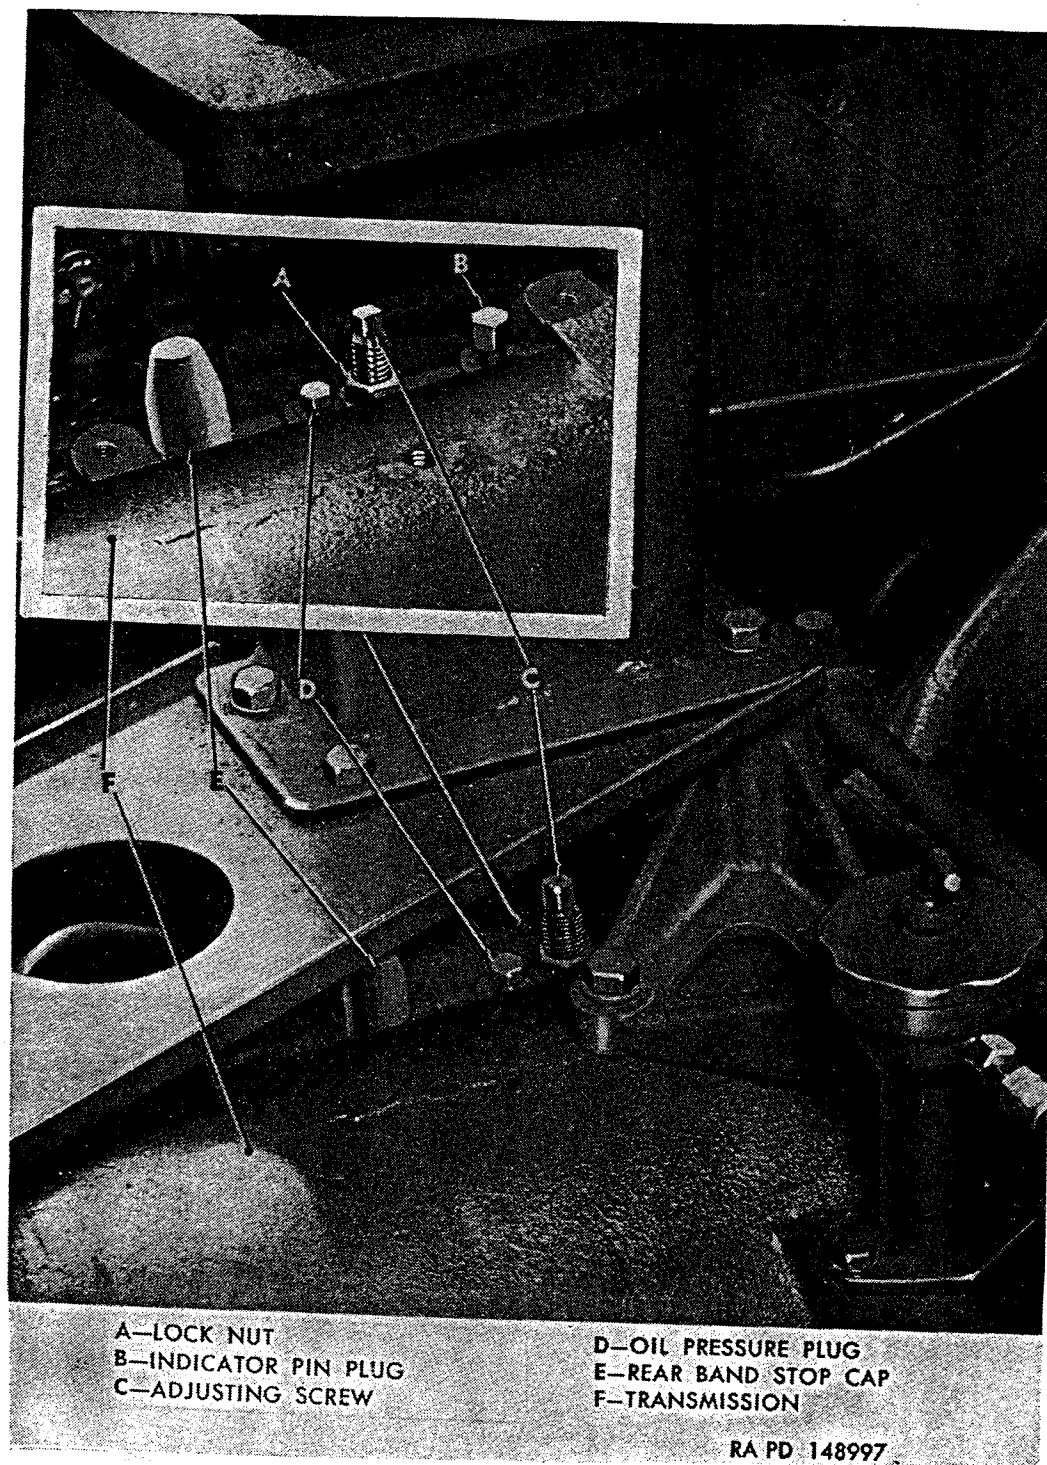
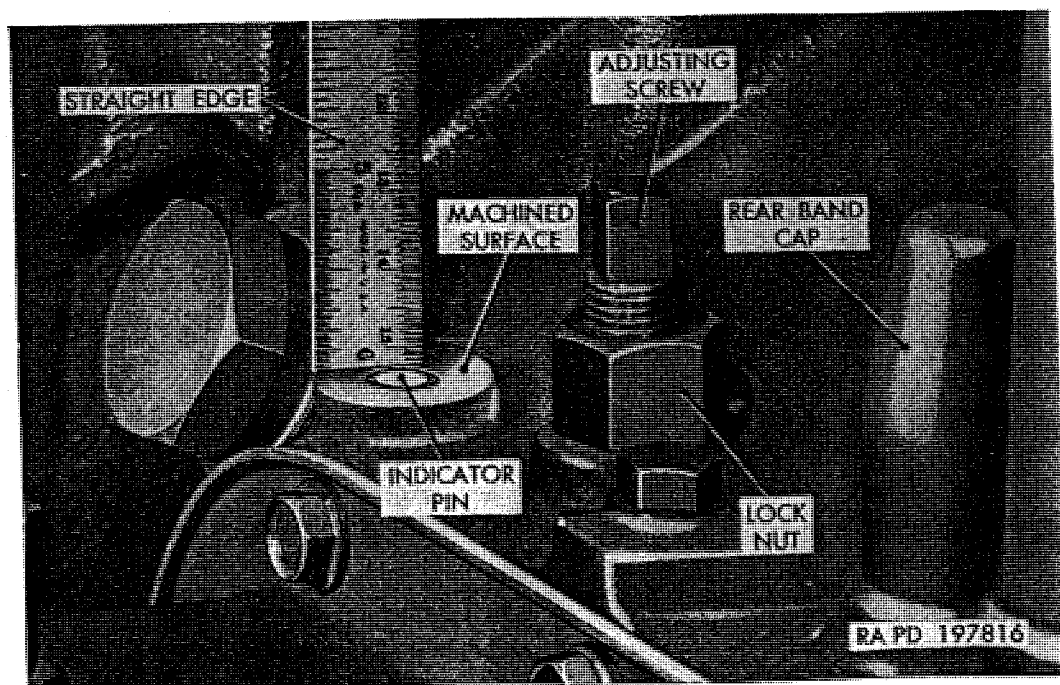

Figure 191. Location of band adjusting screws.
Figure 192. Checking position of indicator pin.
- (1) Fold back companion seat.
- (2) On late-type vehicles only, remove four bolts with lock-washers attaching foot rest to floor; then remove foot rest.
- (3) Remove 14 bolts attaching floor pan to cab floor and dash; then remove floor pan to gain access to front band adjusting screw (C, fig. 191).
- (4) Apply parking brake lever.
- (5) Clean indicator pin plug (B, fig. 191) and adjacent surface of transmission case; then run engine at idling speed with transmission control lever in F-1, HIGH RANGE position.
- (6) Unscrew indicator pin plug (B, fig. 191). Indicator pin should be flush ($\pm \frac{1}{64}$ inch) with machined surface of transmission case. Use straightedge to check pin position (fig. 192).
- (1) Loosen front band adjusting screw locknut (A, fig. 191).
- (2) Turn adjusting screw (C, fig. 191) until pin is **EXACTLY FLUSH** with machined surface of transmission case. Use straightedge (fig. 192) to check adjustment.
- (3) While holding adjusting screw (C, fig. 191) stationary, tighten adjusting screw locknut (A, fig. 191) to 40 to 50 pound-feet torque.
- (4) Use a straightedge (fig. 192) to recheck indicator pin position to **EXACTLY FLUSH** with machined surface of transmission case.
- (5) Install indicator pin plug (B, fig. 191) in transmission case. Tighten plug to 15 to 18 pound-feet torque.
- (6) Install cab floor pan, attaching with fourteen $\frac{5}{16}$ -24 x $\frac{5}{8}$ bolts and external-teeth lockwashers.
- (7) On late type vehicles only, position foot rest on cab floor. Attach foot rest to floor with four $\frac{5}{16}$ -24 x $\frac{3}{4}$ bolts with external-teeth lockwashers.